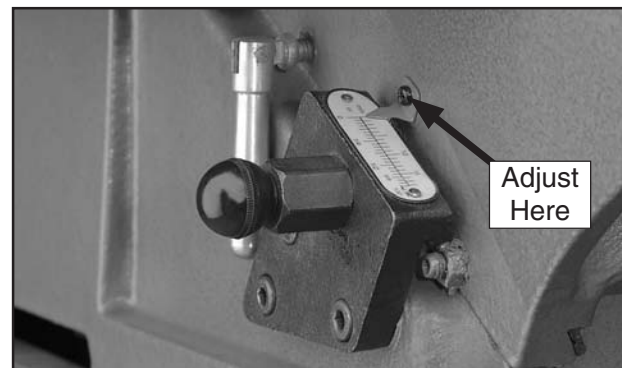

Figure 43. Depth-of-cut pointer adjusted to "0" position.
4. Using a screwdriver, adjust the scale pointer exactly to "0" (**Figure 43**).